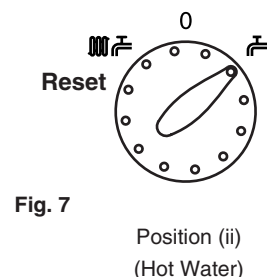

Fig. 7
5. **Position (ii)** In this position hot water will be provided when a tap or shower is turned on (Fig. 7).